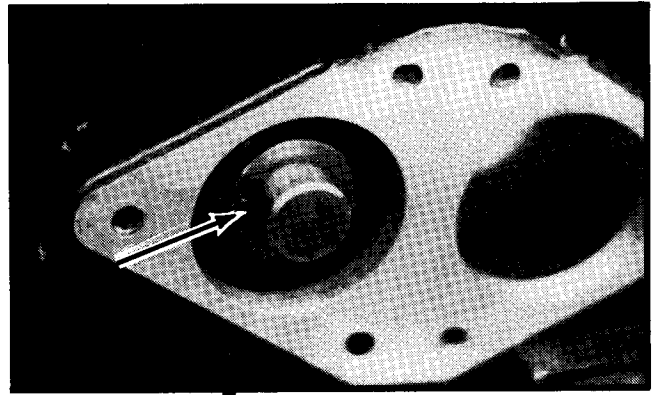

Figure 31. Pulley Shaft Snap Ring
5. Remove the bearing cap on the opposite side from pulley and remove the snap ring (See Figure 31).